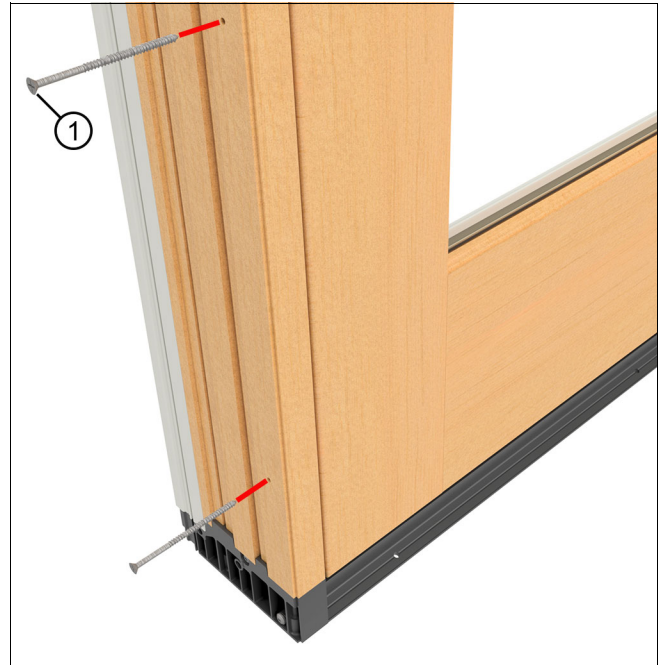

Figure 39
17. Fasten the jamb to the panel with the #8 x 3" flat head screws. See Figure 39.